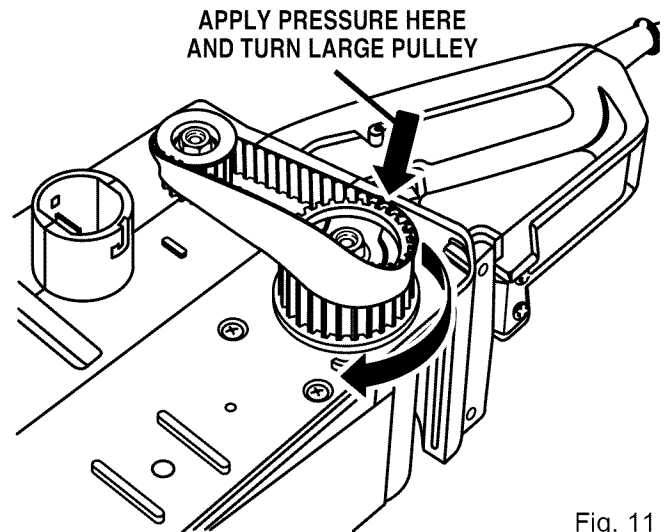

Fig. 11
- Holding the timing belt as shown in Figure 11, press belt onto the large pulley turning it as you press the belt on.